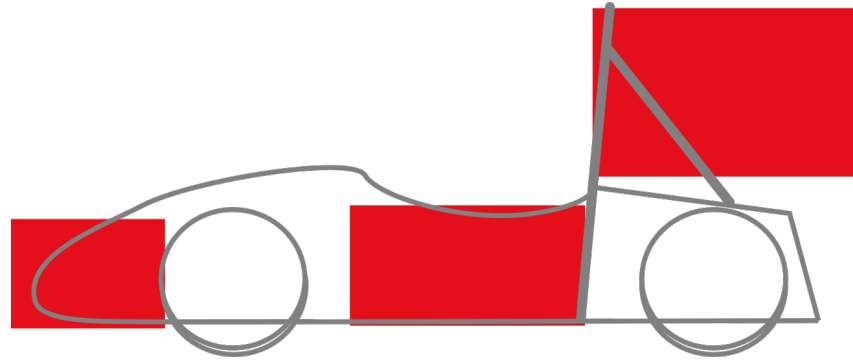

Figure 1: RFID Tag Placement Areas
- DE4.11.1 In order to have the vehicle be identifiable during dynamic disciplines, Timekeeping will stick three RFID tags to the vehicle. There will be one tag on the front, center and rear of the vehicle. They will all be on the left side (as shown in figure 1).